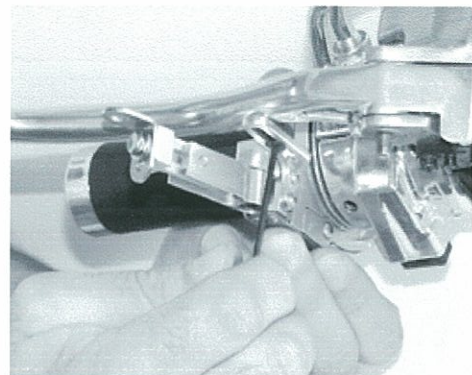

Figure 11
- 2.2 Hold the throttle and the engaged unit so the Cam Support(9) touches the bottom of the brake lever. Slide the Cam(8) against the back of the brake lever. The bill of the Cam should slide under the brake lever. Tighten the Cam Screw(10) (Figure 11). Do not over tighten or you may strip the threads in the cam.